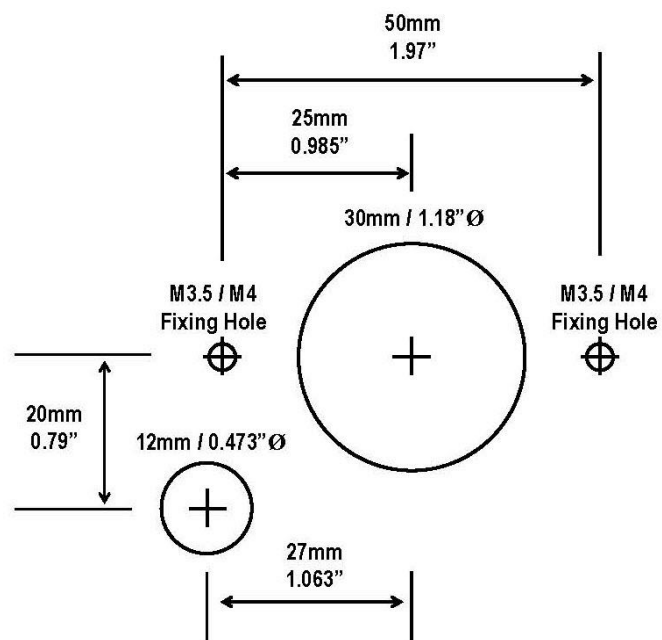

Figure 18: SM7 sensor cut-out template
1. Use the cut-out details provided with the sensor (Figure 18) to cut-out and drill the holes in the fume cupboard for the SM7 sensor.